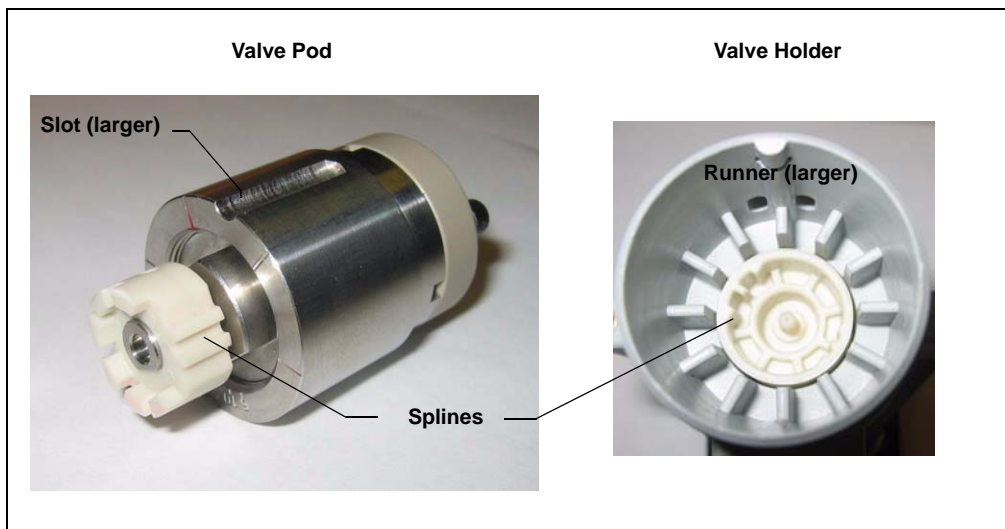

Figure 5-12. Valve Pod and Pod Holder
7. Align the slots in the new pod with the runner in the valve holder on the ICS-2100 (see Figure 5-12). Valve pods are keyed to fit only one way (one slot is narrower than the other). Verify that the slots are aligned with their matching runners.
- Also verify that the two splines on the pod align with the matching splines inside the valve holder (see Figure 5-12). If necessary, twist the end of the pod to adjust the position of the splines.